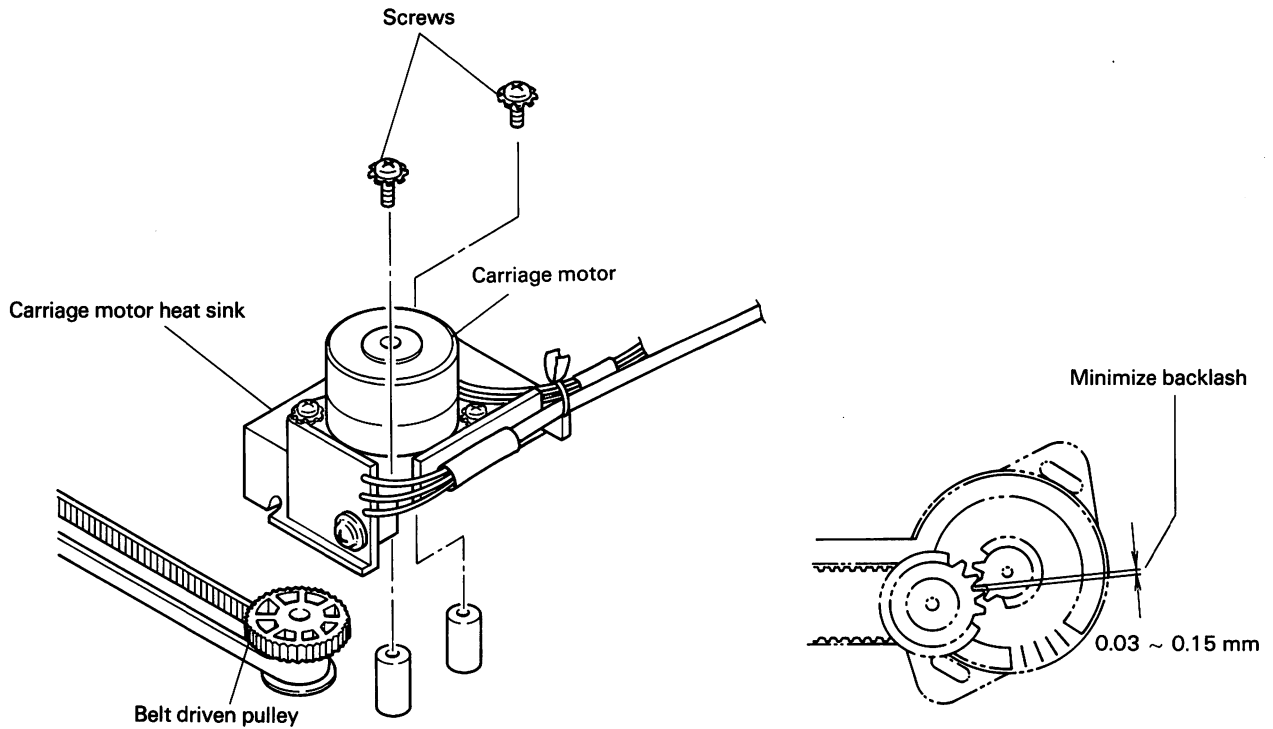

Fig. 4-23. Carriage Motor Backlash Adjustment
4.3.2 Carriage Motor Backlash Adjustment (Fig. 4-23)